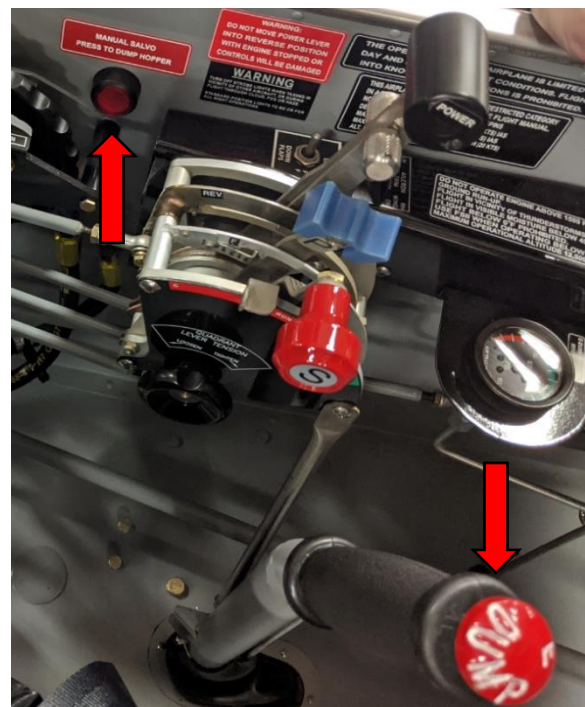

Figure 4 - Manual Salvo Button & E-Dump Lever (View from Pilot's Seat)
- **MAN SALVO** – this is activated by pressing the MAN SALVO button located on the left-hand side of the cockpit, as shown in Figure 4. This will cause the doors to open to a pre-determined fixed angle regardless of the ARM switch setting. This requires electrical power.
- **E-DUMP** – this is activated by pressing the e-dump button on the lever located on the left hand side of the cockpit and moving it forward as shown in Figure 4. No electrical power is required.